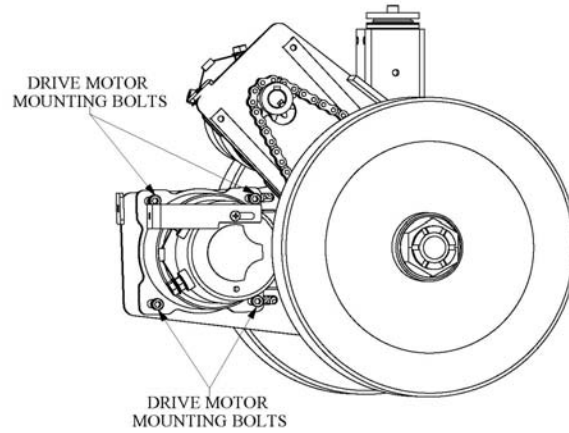

Fig. 1.25
4. Remove the four (4) mounting bolts and lock washers from the gearmotor. Refer to Fig. 1.25.